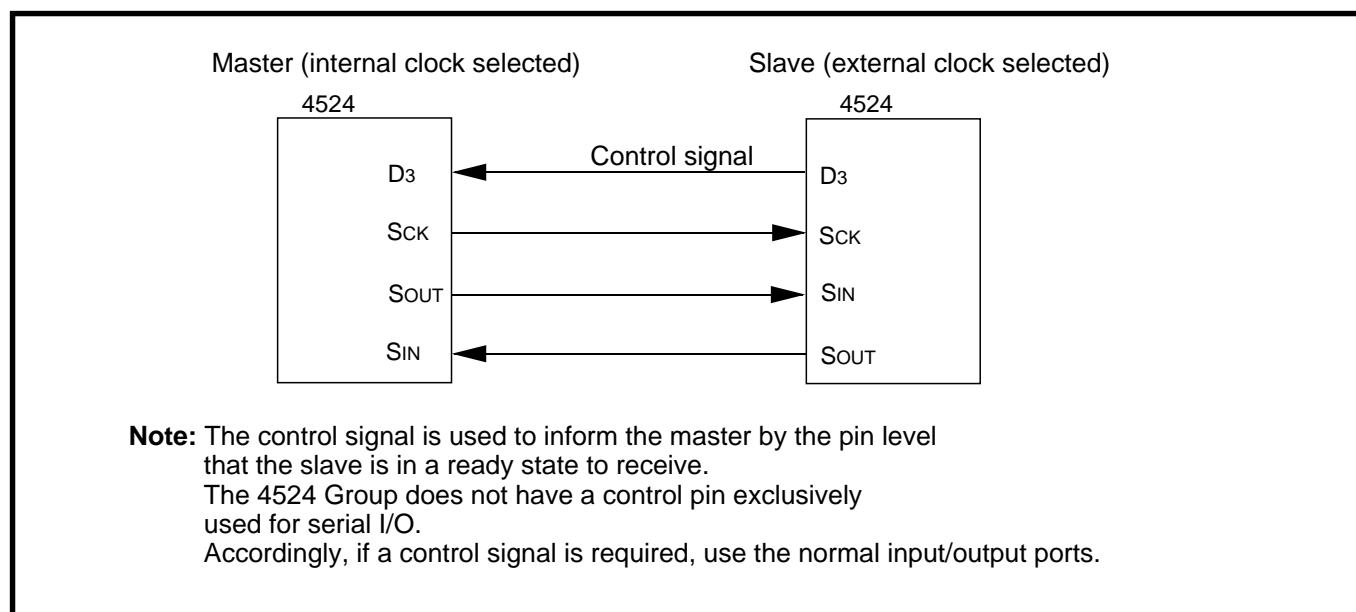
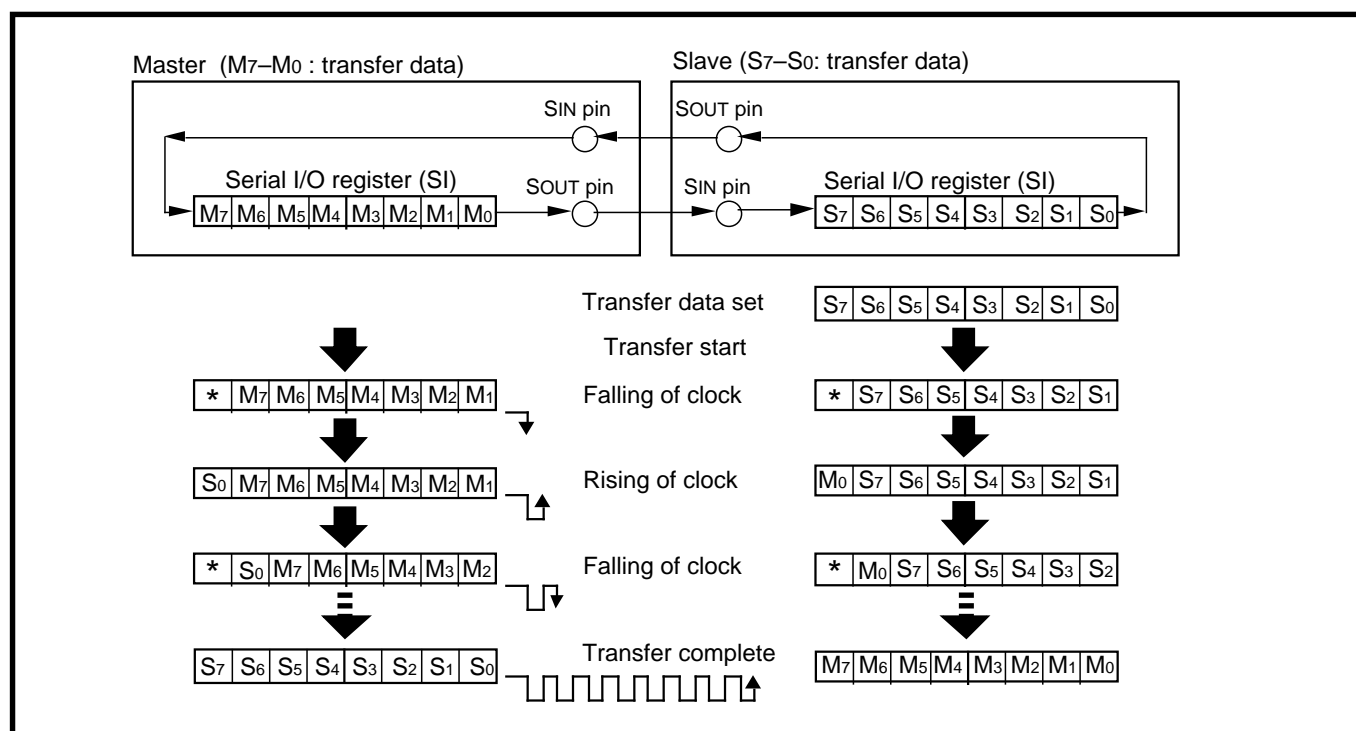
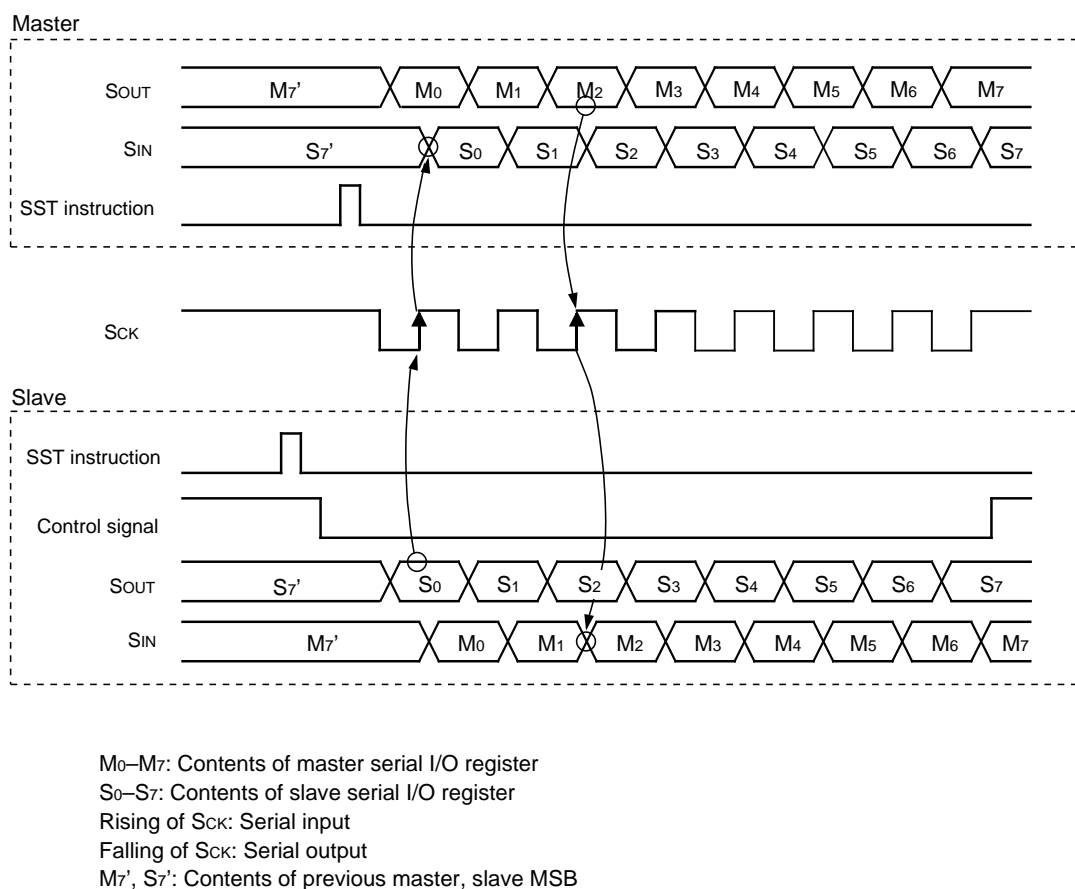

Fig. 2.5.2 Serial I/O connection example
Fig. 2.5.3 Serial I/O register state when transfer
Fig. 2.5.4 Serial I/O transfer timing
Figure 2.5.2 shows the serial I/O connection example, Figure 2.5.3 shows the serial I/O register state, and Figure 2.5.4 shows the serial I/O transfer timing.
The full duplex communication of master and slave is described using the connection example shown in Figure 2.5.2.
In the connection example in Figure 2.5.2, check that the input level of control signal is "L" level.
- ② Start serial transmit/receive with the **SST** instruction. However, in Figure 2.5.2 where an external clock is selected, transmit/receive is not started until the clock is input. When the **SST** instruction is executed, the serial I/O transmit/receive completion flag (SIOF) is cleared to “0.”
- ③ The microcomputer on the master side is informed that the receiving side is ready to receive. In the connection example in Figure 2.5.2, the control signal “L” level is output.
- ④ The transmit data is output from the SOUT pin synchronously with the falling edges of the shift clock.
- ⑤ The transmit data is output bit by bit beginning with the LSB of register SI. Each time one bit is output, the contents of register SI are shifted to one bit position toward the LSB.
- ⑥ Also, the receive data is input from the SIN pin synchronously with the rising edges of the shift clock.
- ⑦ The receive data is input bit by bit to the MSB of register SI.
- ⑧ A serial I/O interrupt request occurs when the transmit/receive is completed, and the SIOF flag is set to “1.”
- ⑨ Read the receive data within the serial I/O interrupt service routine; or read the data after examining the completion of the transmit/receive operation with the **SNZSI** instruction without using an interrupt. Also, the SIOF flag is cleared to “0” when an interrupt occurs or the **SNZSI** instruction is executed.
- ⑩ Set the control signal pin level to “H” after the receive operation is completed.
Specifications: Figure 2.5.2 Serial I/O connection example.